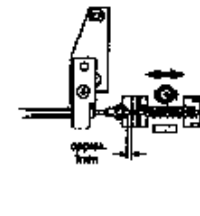

Fig. 4.18
- (3) Set the LX-3 in Record and Pause mode. Check to insure that the gap between the top of the wire and the Record Spring Holder is approx. 1 mm as shown in Fig. 4.18. (Check that the Record Switch is in record position.)
- (4) Upon completion of the above adjustments, apply a quantity of lock tight point.